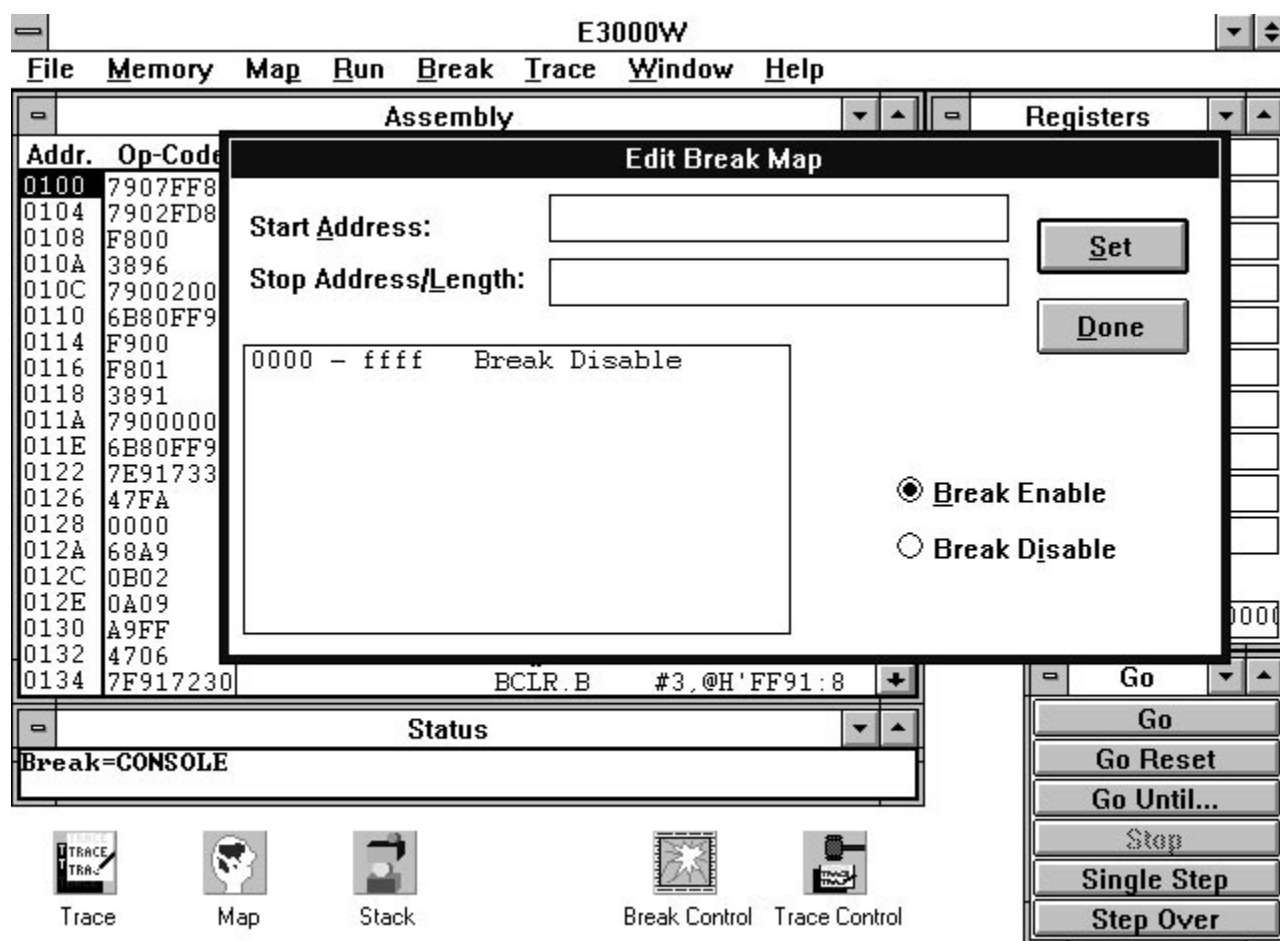

Figure 9.
3. Range Breakpoints occur if the user program accesses any memory location set to trigger a break in the *Edit Break Map* dialog box. To arbitrarily set a range of memory to cause a program break, click on the *Edit Break Map* option in the *Map* file menu, and the *Edit Break Map* dialog box will be displayed (see Figure 9). The default break map indicates that the break function is disabled throughout the entire memory map. The user can enter the memory boundary or boundaries in which an access will trigger a break by filling the *Start Address* and *Stop Address/Length* boxes, and clicking on the *Set* and *Done* switches.